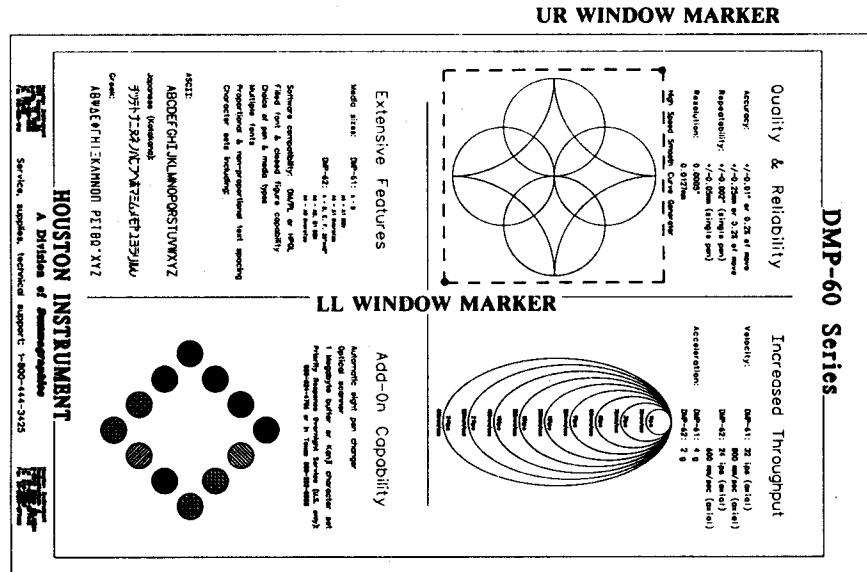

FIGURE 2-10. LOWER LEFT/UPPER RIGHT WINDOW MARKERS
3. The objective of this step is to clip the circle/arc design from the test plot with the window. Use the **MANUAL MOVEMENT KEYS** to move the pen holder to the position of the lower left window marker illustrated in Figure 2-10. After the pen holder is positioned, specify this location as the new lower left corner point of the window by pressing **ENTER** (the **LED** indicator will illuminate), and then **CLIP LL**. (After **CLIP LL** is pressed, the **ENTER** indicator will turn off.)
Next, use the **MANUAL MOVEMENT KEYS** to move the pen holder to the position of the upper right window marker illustrated in Figure 2-10. After the pen holder is positioned, specify this location as the new upper right corner point of the window by pressing **ENTER** (the LED indicator will illuminate), and then **CLIP UR**. (After **CLIP UR** is pressed, the **ENTER** indicator will turn off.) Register the corner points by pressing the **LOCAL** key (the **LOCAL** indicator will turn off).